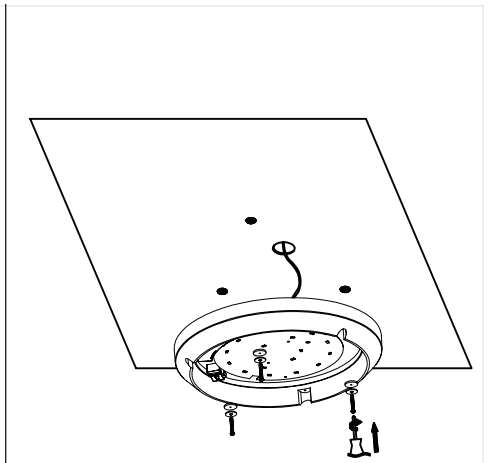

Fig. 2
- Using the ceiling cover as a template, mark the position of the mounting holes. Drill holes and fit supplied wall plugs (suitable for masonry only - for other surfaces use appropriate fixings). Feed the incoming mains supply cable through the grommet entry hole. Fix the ceiling cover to the ceiling using the supplied fixings (See Fig. 2).